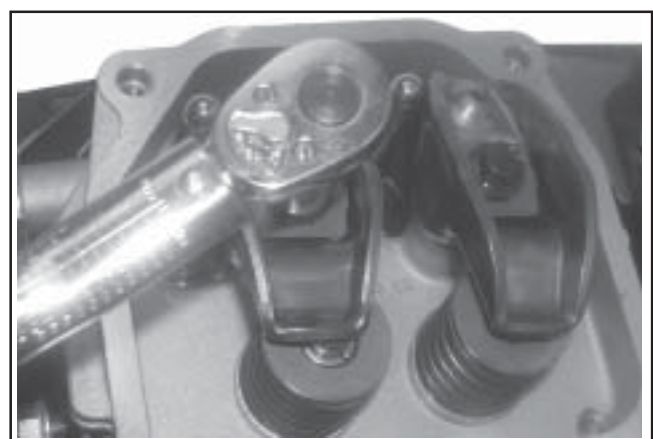

Figure 11-46. Torquing Rocker Arm Screws.
2. Apply grease to the contact surfaces of the rocker arms and rocker arm pivots. Install the rocker arms and rocker arm pivots on one cylinder head, and start the two hex flange screws. See Figure 11-46.